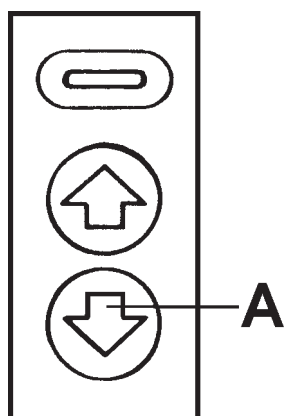

Figure 3
- Trim the drive down to the 0° position. Press switch (see “A,” figure 3).